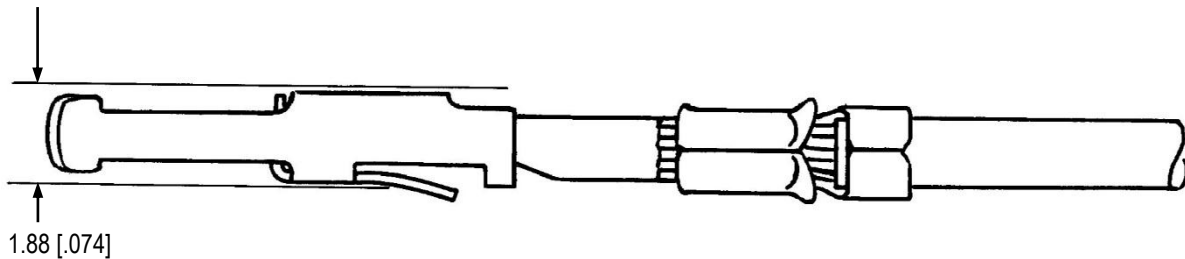

Figure 8
(2) The side to side bending of the contact may not exceed the limits shown in Figure 8.